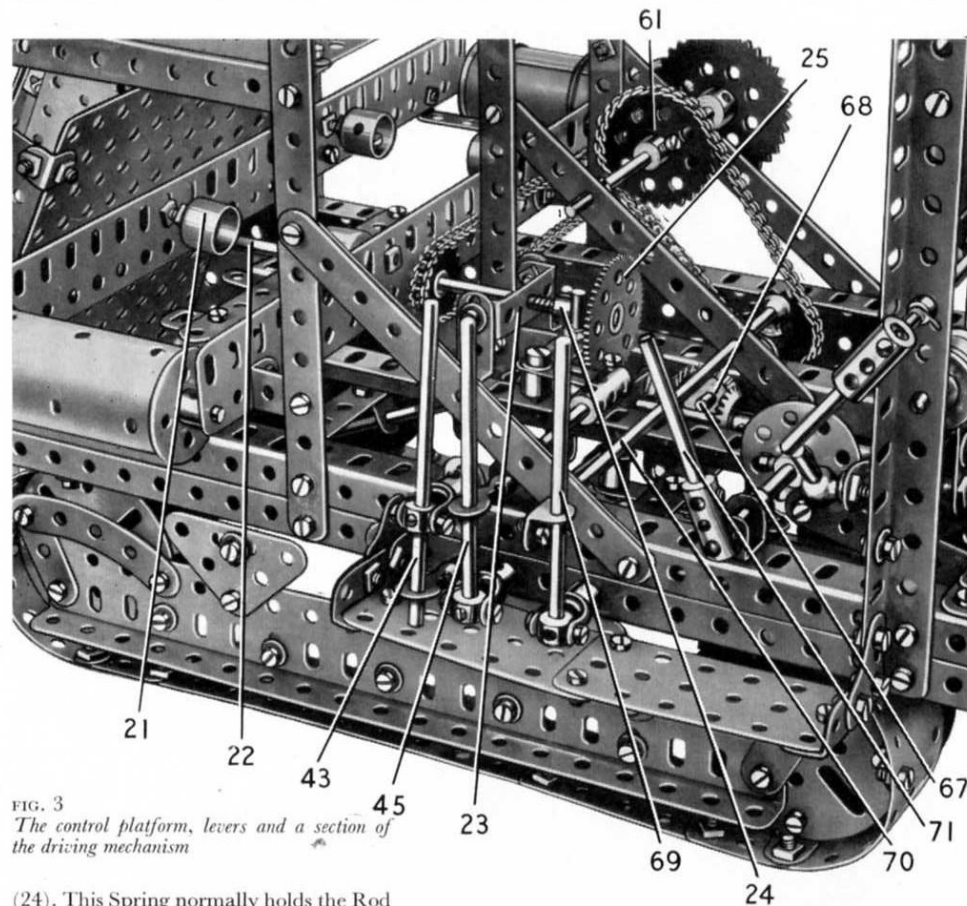
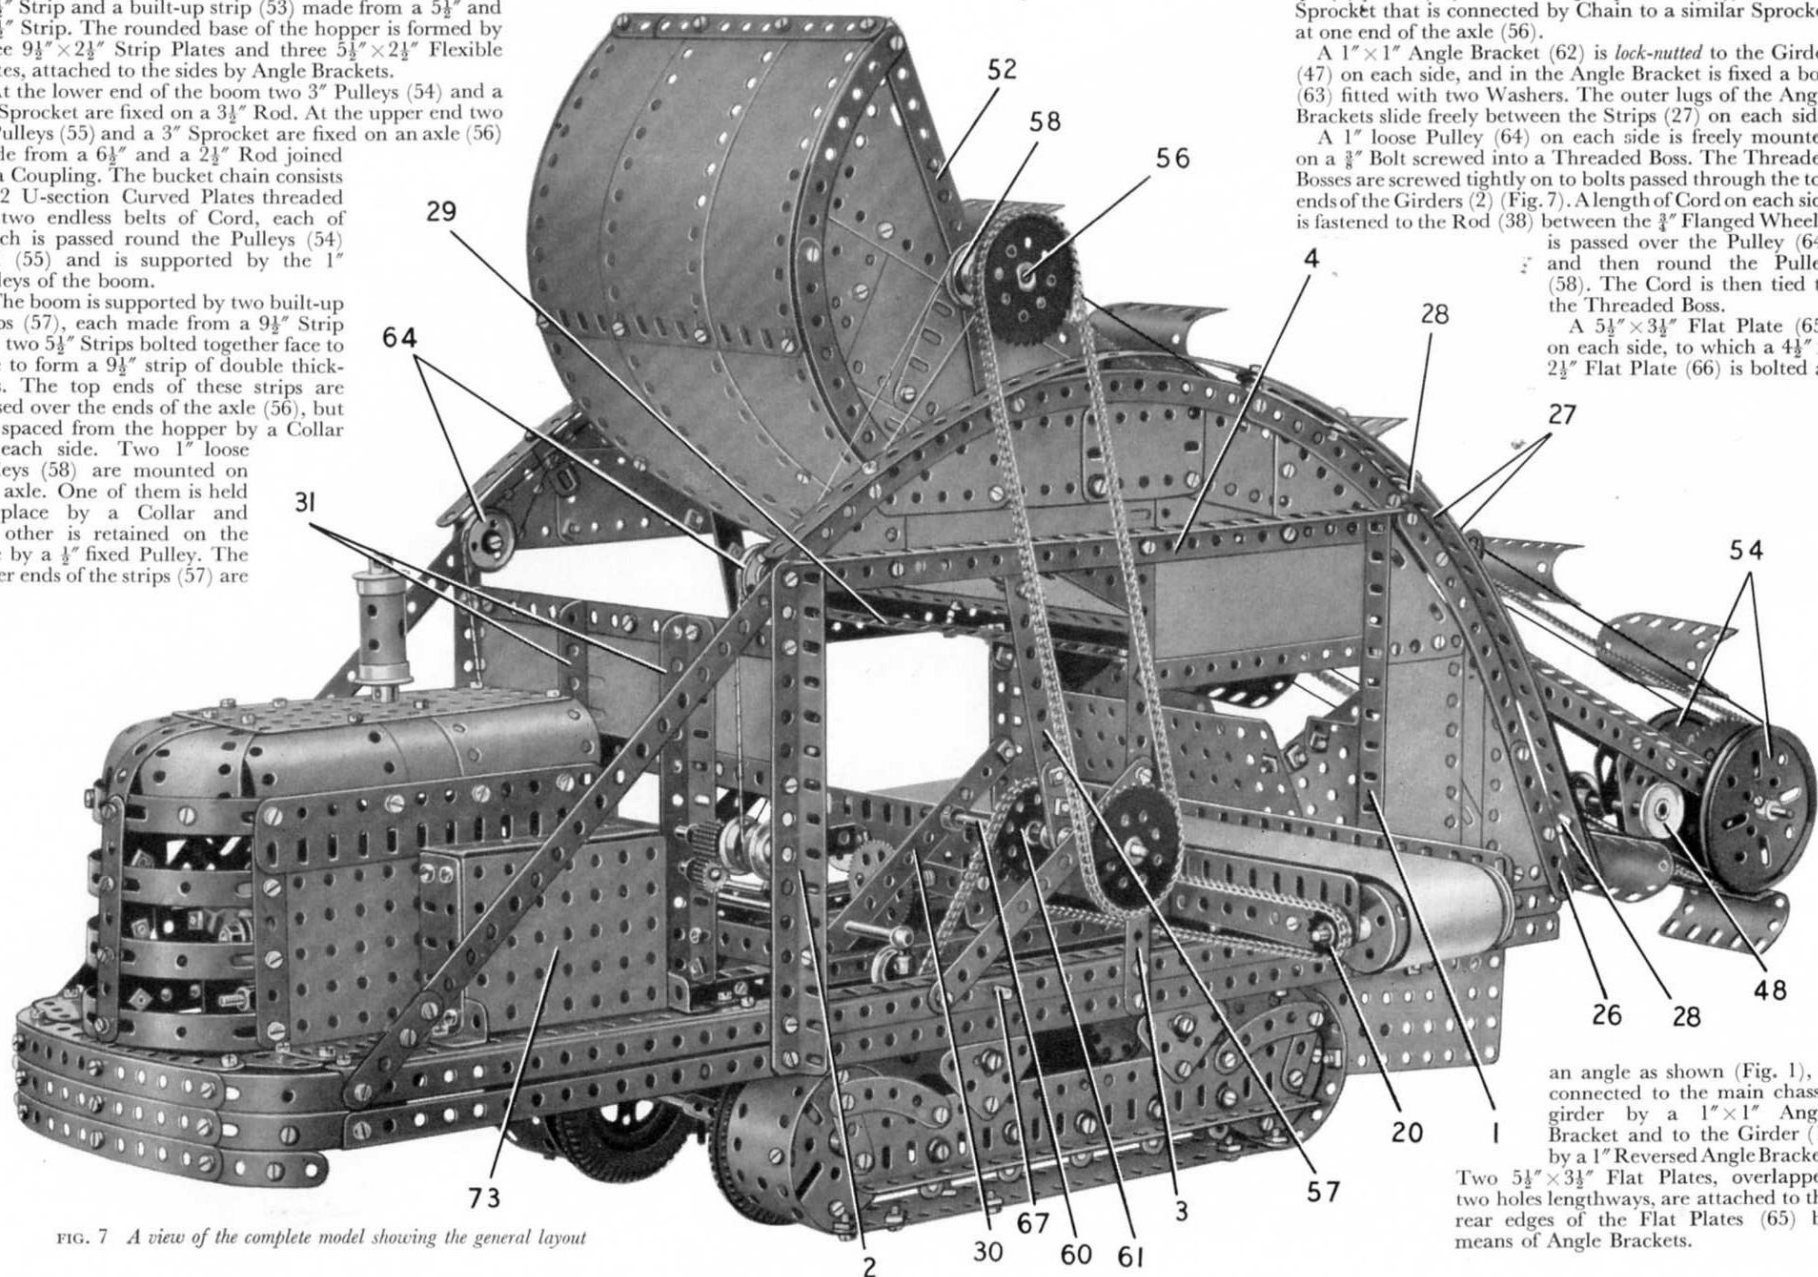

FIG. 3
FIG. 7 A view of the complete model showing the general layout
Each side-member of the chassis consists of two $24\frac{1}{2}$ " Angle Girders arranged to form a channel section girder by bolting to them two $7\frac{1}{2}$ " Angle Girders (1) and (2) and a $7\frac{1}{2}$ " Strip (3) (Fig. 7). The top ends of the Girders (1) and (2) and the Strip (3) are connected by bolting to them a $12\frac{1}{2}$ " Angle Girder (4). The side-members are connected by two built-up strips (5) and (6) (Fig. 2), each made from two $5\frac{1}{2}$ " Strips overlapped seven holes. Two similar built-up strips (7) and (8) are fixed in position, and a further built-up strip (9) (Fig. 3) is bolted across the chassis. The strip (9) is made from two $4\frac{1}{2}$ " Strips overlapped three holes. Two $18\frac{1}{2}$ " Angle Girders (10) are bolted to the strips (5) and (6) as shown.
The Motor switch is operated by a lever (71) (Figs. 3 and 6) formed by a 2" Rod in a Coupling. The Coupling is fixed on a $3\frac{1}{2}$ " Rod mounted in Double Brackets bolted to the chassis, and the
The conveyor frame consists of two $12\frac{1}{2}$ " Flat Girders, one of which is attached to the Girders (1) (Fig. 7) by $1" \times \frac{1}{2}"$ Angle Brackets while the other is similarly attached to the Strips (3). A $3\frac{1}{2}" \times \frac{1}{2}"$ Double Angle Strip (19) (Fig. 2) is bolted between the Flat Girders at one end.
The main conveyor rollers are formed by $1\frac{1}{4}"$ Flanged Wheels pressed into Cylinders, and each is fixed on a 4" Rod mounted in the Flat Girders. The Rod that supports the driving roller carries a $\frac{3}{4}"$ Sprocket (20) (Fig. 7), and two $2\frac{1}{2}"$ Driving Bands are stretched round this roller. The belt can be made from a length of cloth or strong paper joined together at its ends. The supporting rollers (21) (Fig. 3) are Chimney Adaptors, each of which is free to turn on a $\frac{1}{2}"$ Bolt and is held against the head of the Bolt by two nuts screwed against each other.
The Sprocket (20) is driven by a $1"$ Sprocket on a $6\frac{1}{2}"$ Rod (22) (Fig. 3). This Rod is supported in the conveyor frame and in a $1\frac{1}{2}" \times \frac{1}{2}"$ Double Angle Strip (23) that is attached to $1" \times \frac{1}{2}"$ Angle Brackets bolted to the Girders (10). A Compression Spring is fitted on the Rod between Double Angle Strip (23) and a Collar
(24). This Spring normally holds the Rod so that a 57-tooth Gear (25) on it is kept clear of the Pinion (15) (Fig. 8). The Gear and Pinion can, however, be brought into mesh by sliding the Rod, to engage the drive to the conveyor. The movement of Rod (22) is restricted by a Collar placed inside the conveyor frame, and is controlled by a lever (45) (Fig. 3). This lever is a $3\frac{1}{2}$ " Rod fixed in a Swivel Bearing attached to the chassis by a Pivot Bolt. The lever carries as shown a Rod and Strip Connector fixed on a $3\frac{1}{2}$ " Rod that slides in a Double Bracket bolted to the chassis. A Strip Coupling on the $3\frac{1}{2}$ " Rod is connected by a $\frac{3}{8}$ " Bolt to one arm of a Bell Crank, and this is mounted freely on a Pivot Bolt fixed in one of the Girders (10). The other arm of the Bell Crank carries a Threaded Pin that engages between the Collar (24) and the Gear (25).
A 1" loose Pulley (64) on each side is freely mounted on a $\frac{3}{8}$ " Bolt screwed into a Threaded Boss. The Threaded Bosses are screwed tightly on to bolts passed through the top ends of the Girders (2) (Fig. 7). A length of Cord on each side is fastened to the Rod (38) between the $\frac{3}{4}$ " Flanged Wheels, is passed over the Pulley (64) and then round the Pulley (58). The Cord is then tied to the Threaded Boss.
Drive to the Bucket Chain (Figs. 3, 5, 7 and 8)
A 4" Rod (67) (Fig. 3) is mounted in one of the Girders (10) and in one side of the chassis frame. The Rod carries a $\frac{3}{4}$ " Bevel Gear (68), a 1" Sprocket connected by Chain to the $1\frac{1}{2}$ " Sprocket (61), and a $\frac{3}{4}$ " Flanged Wheel. A Compression Spring is fitted on Rod (67) between the Girder (10) and the Flanged Wheel, and this normally holds the Rod in such a position that Bevel Gear (68) is clear of Bevel Gear (17). The two Bevel Gears can be meshed by moving a lever (69). The lever is a $3\frac{1}{2}$ " Rod held in a Swivel Bearing fixed on a Pivot Bolt bolted to the side of the chassis. An Angle Bracket passed over the lever is lock-nutted to a Rod and Strip Connector on a $6\frac{1}{2}$ " Rod (70) and a Handrail Coupling engages the $\frac{3}{4}$ " Flanged Wheel on Rod (67).
The side of the engine cover seen in Fig. 7 consists of a $5\frac{1}{2}" \times 2\frac{1}{2}"$ Flat Plate and a $5\frac{1}{2}"$ Flat Girder bolted at one end to a $3\frac{1}{2}"$ Strip and at the other end to a $3\frac{1}{2}"$ Flat Girder. The other side is formed by a $5\frac{1}{2}"$ Strip, a $5\frac{1}{2}"$ Flat Girder, a $3\frac{1}{2}"$ Flat Girder, a $3\frac{1}{2}"$ Strip and a $5\frac{1}{2}"$ Braced Girder attached to the $5\frac{1}{2}"$ Strip by two Hinges. A $5\frac{1}{2}"$ Angle Girder extended by a $2\frac{1}{2}"$ Angle Girder is bolted to the lower edge of each side of the engine cover, and these Girders are used to attach the structure to the chassis frame. At one side of the engine cover a box structure (73) is fitted (Fig. 7).